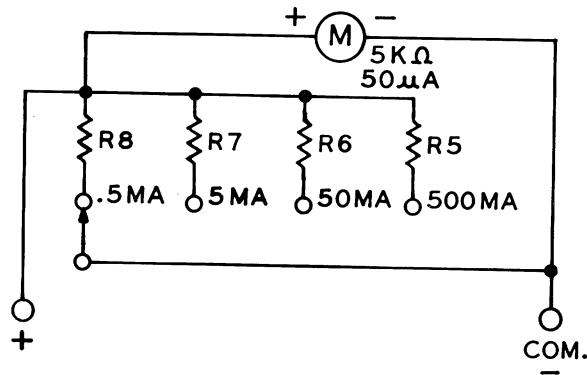

Figure 5-2. Simplified Circuit-DC mA
5.3.1 The basic circuit configuration utilized for direct current measurements is shown in simplified form in Figure 5-2. Resistors R5, R6, R7 and R8 in the arrangement shown form a shunt. The values of these resistances can be computed as: